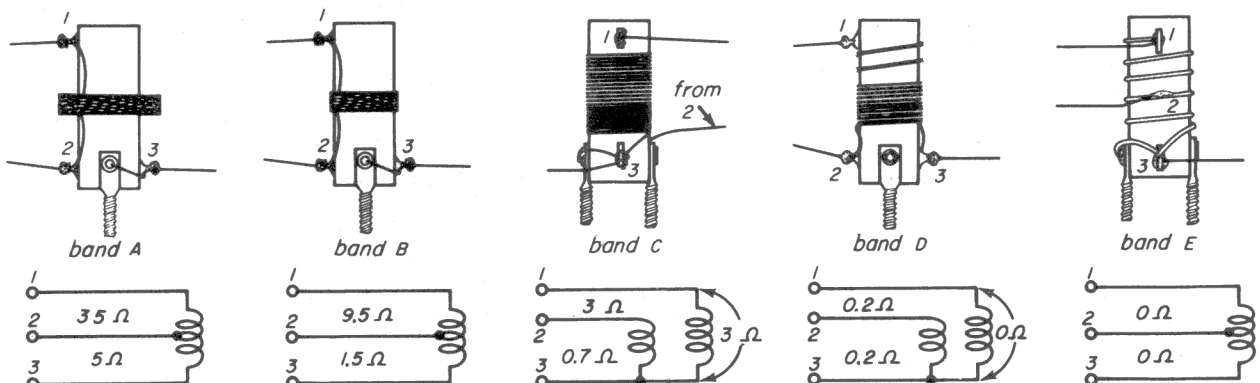

Fig. 21-5
Information. The signal generator uses a set of five coils, one for each frequency band on which the signal generator operates. These coils are shown in Fig. 21-5 as they appear after you have completed this job, in which you solder the connecting wires to the coil terminals. The wires should be connected exactly as shown in the figure. For example, two of the wires connected to the band A coil extend to the left of the coil, one to the right.
Each coil has three terminals, numbered 1, 2 and 3. The terminals can be located by their positions on the coils. Terminal 1 is always at the top of the coil form and terminals 2 and 3 are at the bottom (near the spade lugs). Terminal 3 is always grounded and is connected to one of the spade lugs by grounding wire. Lay your coils out on the bench to correspond with Fig. 21-5. Compare your coils with the figure and study them carefully until you can identify the coils and you are sure you know which are terminals 1, 2, and 3 on each coil. Note that terminal 2 is not used on the band E coil. A lead is already soldered to the center-tap of the coil, which serves as terminal 2 of this coil.
Step 3. Cut and strip five 1-inch lengths of hookup wire. Connect and solder one wire to the terminal 3 of each coil. Terminal 3 is the bottom terminal, which is connected to a spade lug. Your coils should look like Fig. 21-5 after this job is completed.
Step 4. Set up your multimeter to measure resistance on the $R \times 1$ range. Carefully zero the ohmmeter. Measure the resistance between the terminals of each coil. Compare your readings with those given in Fig. 21-5. Although your readings need not be exactly the same as those given, they should agree within about $\pm 10\%$.